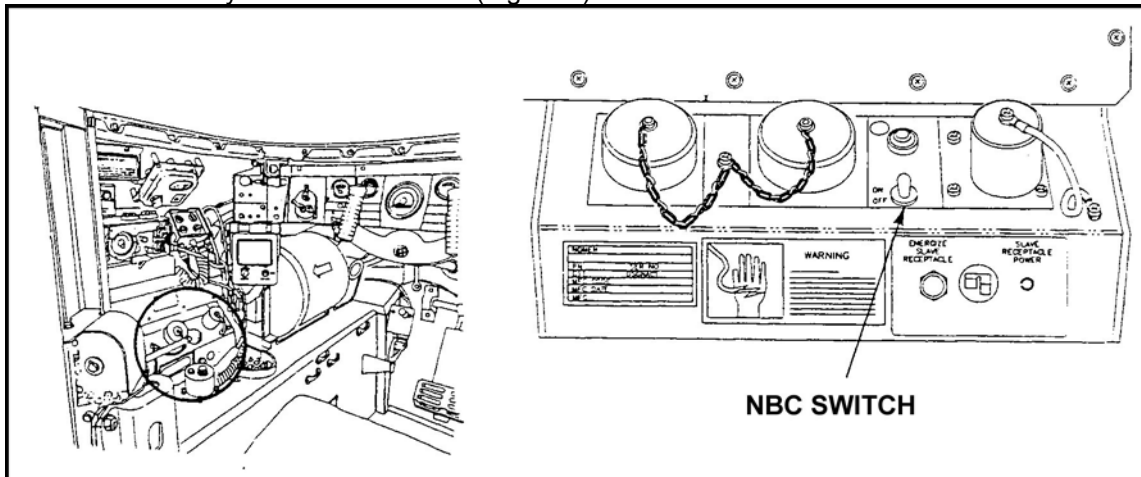

Figure 4. NBC system switch.
e. Move NBC systems switch to ON (Figure 4).